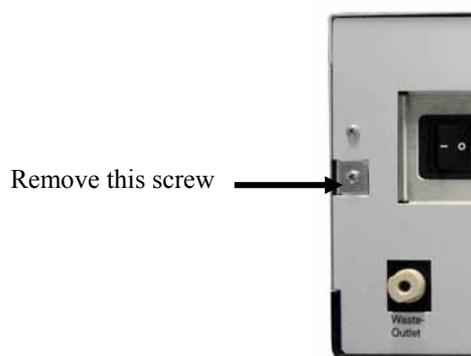

Fig. 40: Screw for the right-side panel
1. On the rear panel, remove the screw for the right-side panel (→ Fig. 40).